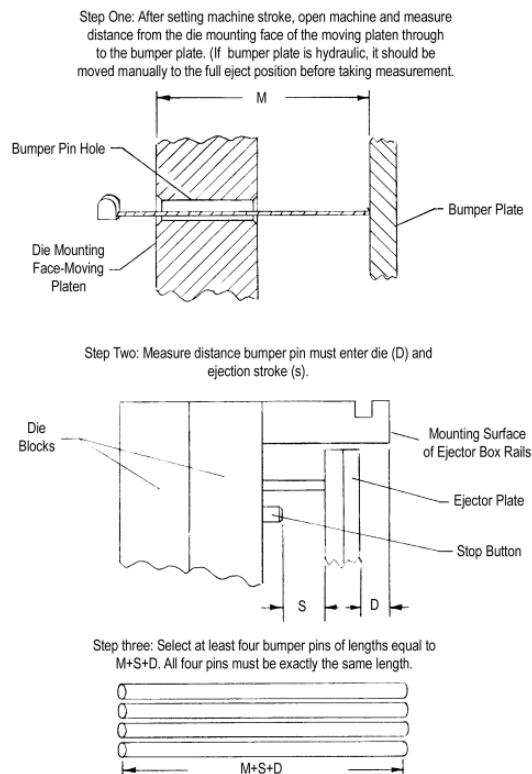

Fig. 6-4. Ejector bumper pins must be the correct length to suit the die and machine in u
8. **Install Positive Knock-out/Bumper Pins.** Bumper pins go through the ejector (or moving) platen to make contact with a stationary or hydraulically actuated bumper plate. These pins push forward the ejector plate in the die to eject the casting. Unless there is a plant standard, it is necessary to select the proper length of bumper pins as shown in Fig.6-4. (Note: Short pins will either not eject the casting or will require excessive machine stroke; excessively long pins may damage the die or clamps as the die ejector plate is forced against the rear of the die.) Once the correct pins are selected, the machine stroke must not be changed if the machine has a solid bumper plate. The selected pins are now placed through the ejector platen holes. **BUMPER PINS MUST BE PLACED NEAR EXTREME CORNERS OF THE DIE EJECTOR PLATE AND MUST ALL BE THE SAME LENGTH.**
12. **Secure Die.** A clamp and clamp bolt must be installed in each T-slot that engages the die. Standard clamps and clamp slots in the die are recommended. Fig. 6-4 shows recommended and not recommended clamping arrangements. Tighten the bolts to the recommended torque for the size of bolt being used, being careful not to over tighten. Use of a standard wrench is recommended.